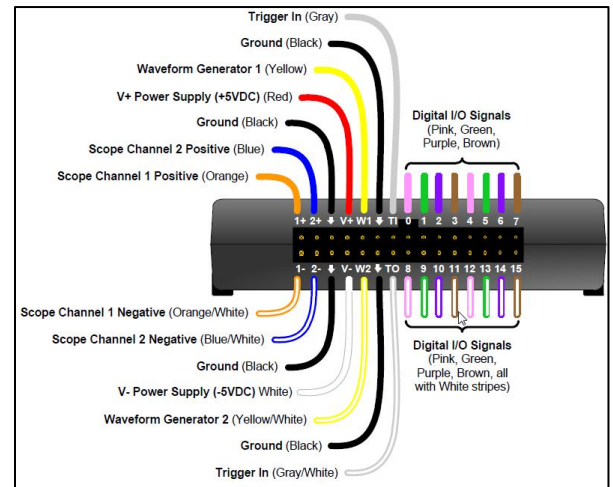
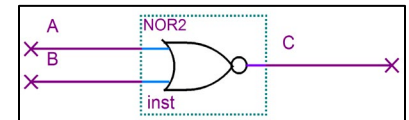
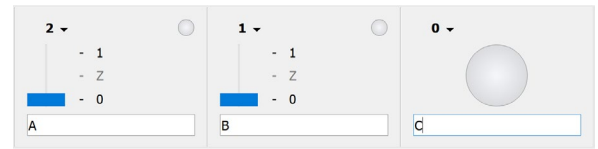
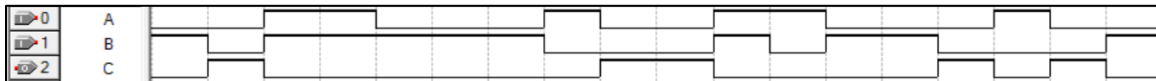

Figure 1: Pin configuration
Figure 3: Simple Circuit
Figure 7: Static I/O Exercise
Figure 15: Quartus functional simulation
Waveforms is compatible with all versions of the **DAD** (Digilent Analog Discovery), the DAD 1, the DAD 2, and the NAD (no longer sold, from National Instruments). The purpose of these devices is to assist you in designing and testing analog and digital circuits. To download the latest version of Waveforms, go [here](https://goo.gl/e4ywBw). Take the time now to familiarize yourself with your DAD. See Figure 1 for help in identifying wires. This figure will be referenced throughout this tutorial.
The digital functions of the DAD are the Static I/O, the Digital Pattern Generator, and the Logic Analyzer. These tools output a maximum of 3.3V when outputting. The digital features of the DAD use the Digital I/O signal wires as seen in Figure 1. There are 16 wires in total. Higher numbered wires (15-8) have white stripes. A basic NOR gate, as seen in Figure 3, will be used to assist you in learning these features.
**Exercise:** You will now build a simple circuit using the switches and LEDs with the Static I/O. Configure Digital I/O signal 0 back into an LED by selecting 0, LED. Make sure your Digital I/O signals 2 and 1 are still switches as seen in Figure 7. Use Figure 1 to identify the Digital I/O signal wires 2, 1, and 0. They are the purple, green, and pink wires. Using either your PLD or NOR chip, build the circuit seen in Figure 3. Wires 2 and 1 will be connected to inputs A and B. Wire 0 will be connected to output C. Don't forget to make a common ground connection. Make a truth and voltage table. Observe the LED 0 change as you move the switches. Verify that it matches your voltage table.
**Exercise:** Open the Static I/O in a separate window so you are able to see the Static I/O and Pattern Generator at the same time. Using either your PLD or NOR chip, build the circuit seen in Figure 3. Use Figure 1 to identify the Digital I/O signal wires 2, 1, and 0. They are the purple, green, and pink wires. Wires 2 and 1 will be connected to inputs A and B. Wire 0 will be connected to output C. Don't forget to make a common ground connection. Configure Digital I/O signals 2, 1, and 0 as LEDs on your Static I/O. With your patterns generator, add a bus with Digital I/O signal wires 2 and 1. Change the type to binary count and change the frequency to 1 Hz. Make a truth and voltage table. Press Run. Observe the LED 0 (output) changes as the count changes (which happens second) on LEDs 2 and 1. Verify that it matches your voltage table. Press Stop. Change the type to custom. Set the frequency to 1 Hz and make a pattern as seen in the Quartus functional simulation waveform for a NOR in Figure 15. The Quartus waveform has 18 values. Press Run. Notice how the LED matches the output in the Quartus waveform. Press Stop.
**Exercise:** Open the Pattern Generator in a separate window so you are able to see the Pattern Generator and Logic Analyzer at the same time. Create the circuit seen in Figure 3. Connect Digital I/O wires 2 and 1 to inputs A and B. Wire 0 will be connected to output C. Don't forget to make a common ground connection. With the Logic Analyzer, add a bus with Digital I/O signal wires 2 and 1 and a signal with Digital I/O signal 0. Using the Pattern Generator, add a bus with Digital I/O signal wires 2 and 1. Change the type to binary count and change the frequency to 1 Hz. Make a truth and voltage table. Press Run. Observe the signal 0 change as the count changes every second on signals 2 and 1. Verify that it matches your voltage table. Press Stop.
**Exercise:** Use the ROM feature to make a NOR gate as seen in Figure 3. Use Digital I/O signals 7 and 6 as inputs A and B. Use Digital I/O signal 5 as output C. Make a truth table for a NOR and enter in your values in the ROM truth table. Press Ok. Use the Pattern Generator to add a bus with Digital I/O signals 7 and 6. Change the type to binary count and change the frequency to 1 kHz. Open the Logic Analyzer in a separate window so you are able to see the Pattern Generator and Logic Analyzer at the same time. With your Logic Analyzer, add a bus with Digital I/O signal wires 7 and 6 and a signal with Digital I/O signal 5. Press Run on the Pattern Generator and on the Logic Analyzer. Adjust the base if necessary to observe the results of your ROM.